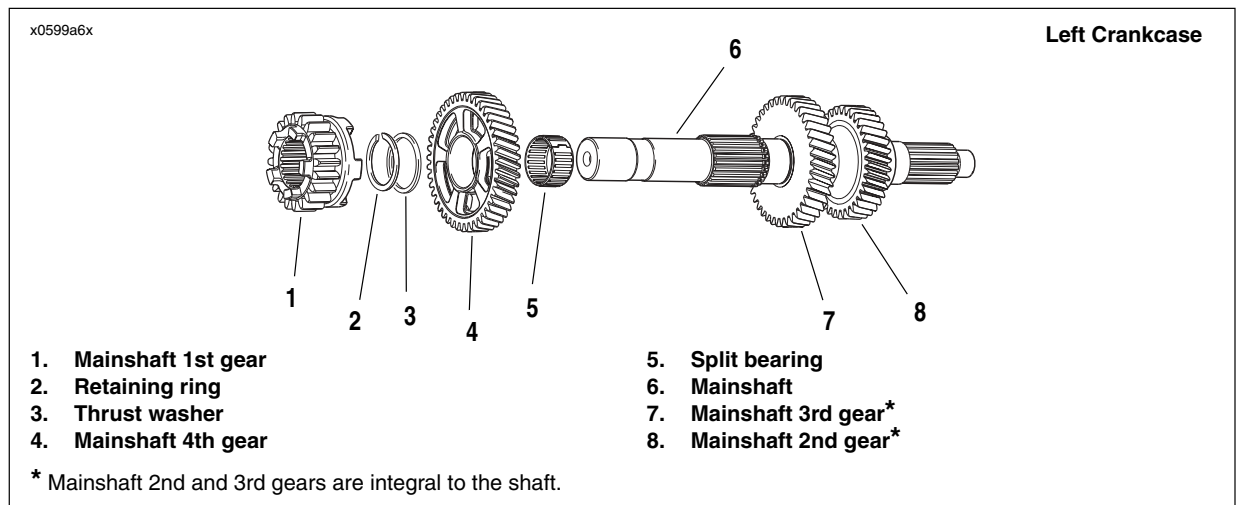

Figure 6-62. Transmission Mainshaft Assembly Once Removed from Left Crankcase/Disassembly
- See Figure 6-62. Remove 1st gear (1).
- Use RETAINING RING PLIERS (Part No. J-5586-A) to expand and remove retaining ring (2). Discard retaining ring.
- Slide thrust washer (3) off end of mainshaft.
- Remove 4th gear (4) and split bearing (5). Discard bearing.